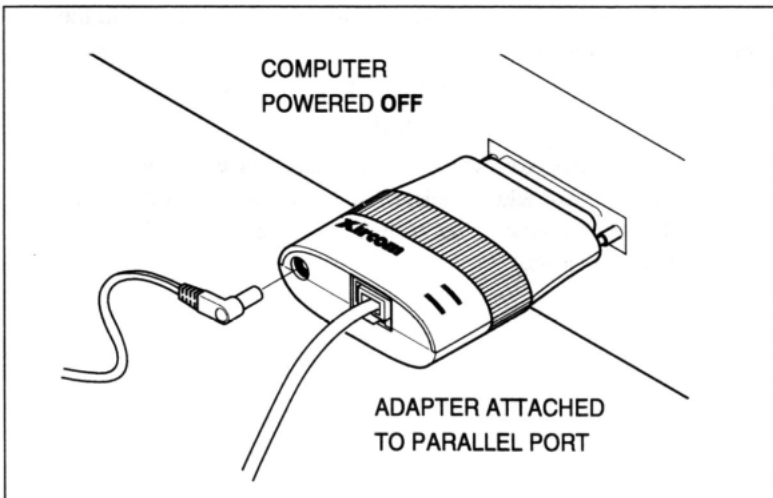

Figure 6. Plugging the Power Cable into the Pocket Ethernet Adapter III
2. Plug the L-shaped end of the AC power adapter cable into the small round socket on the Pocket Ethernet Adapter III to the left of the network connector. See Figure 6.
2. Plug the L-shaped plug on the AC Phantom Power Cable into the small round socket on the Pocket Ethernet Adapter III to the left of the network connector. See Figure 6.